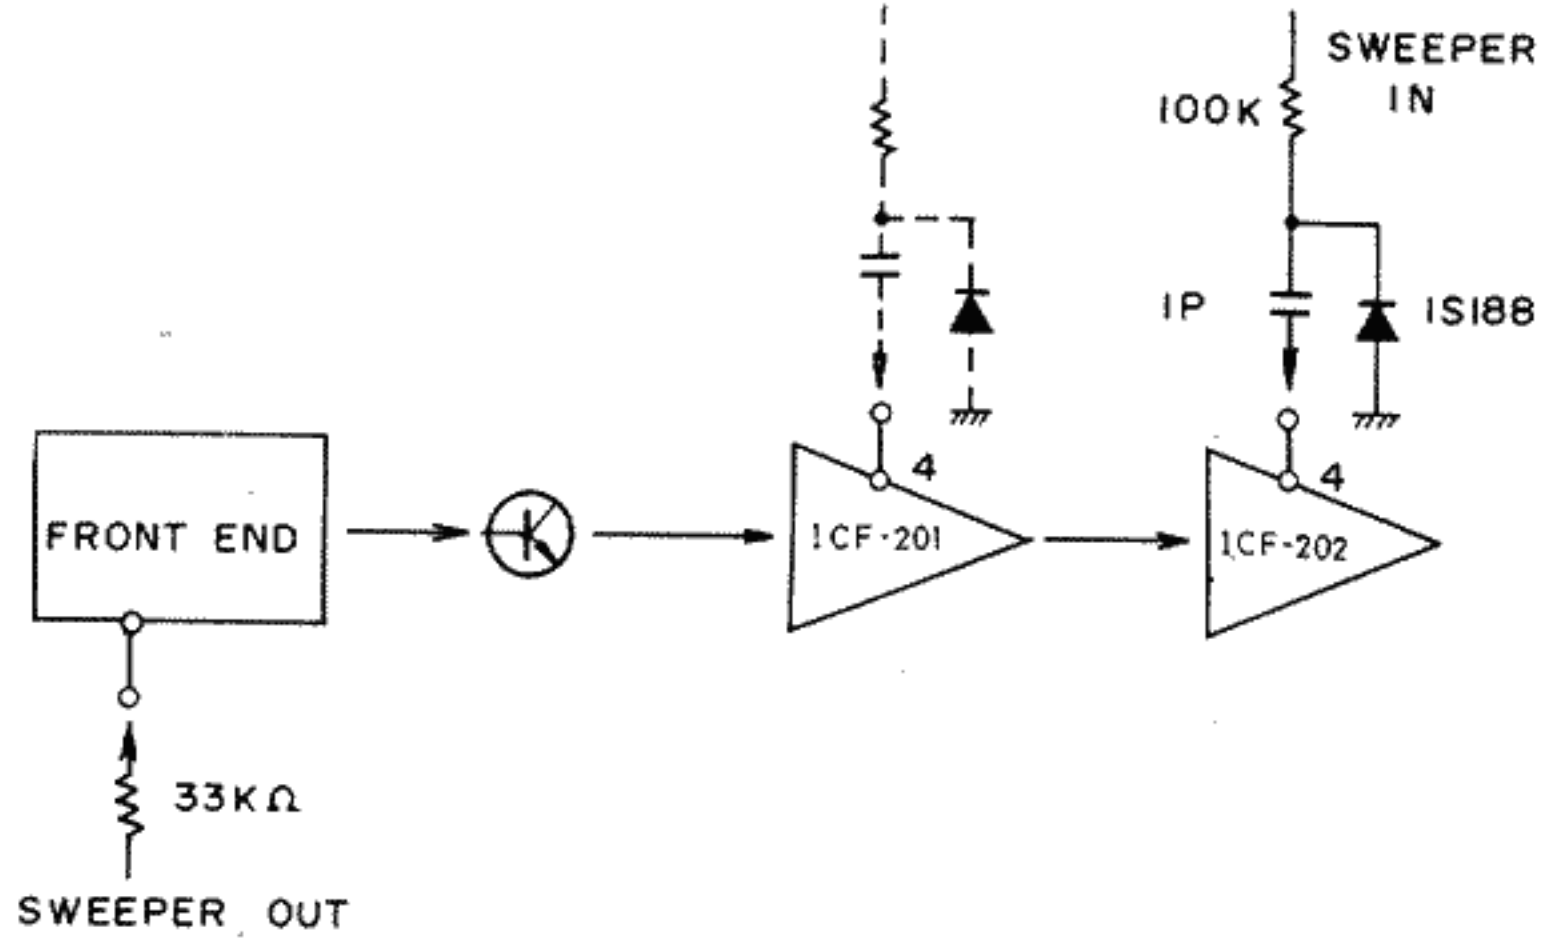

Fig. 12
- Connect FM IF Sweeper Output to the test point of front end and Input to the test point (No.4) of ICF-1 or ICF-2. (See Figs. 12 and 16.)